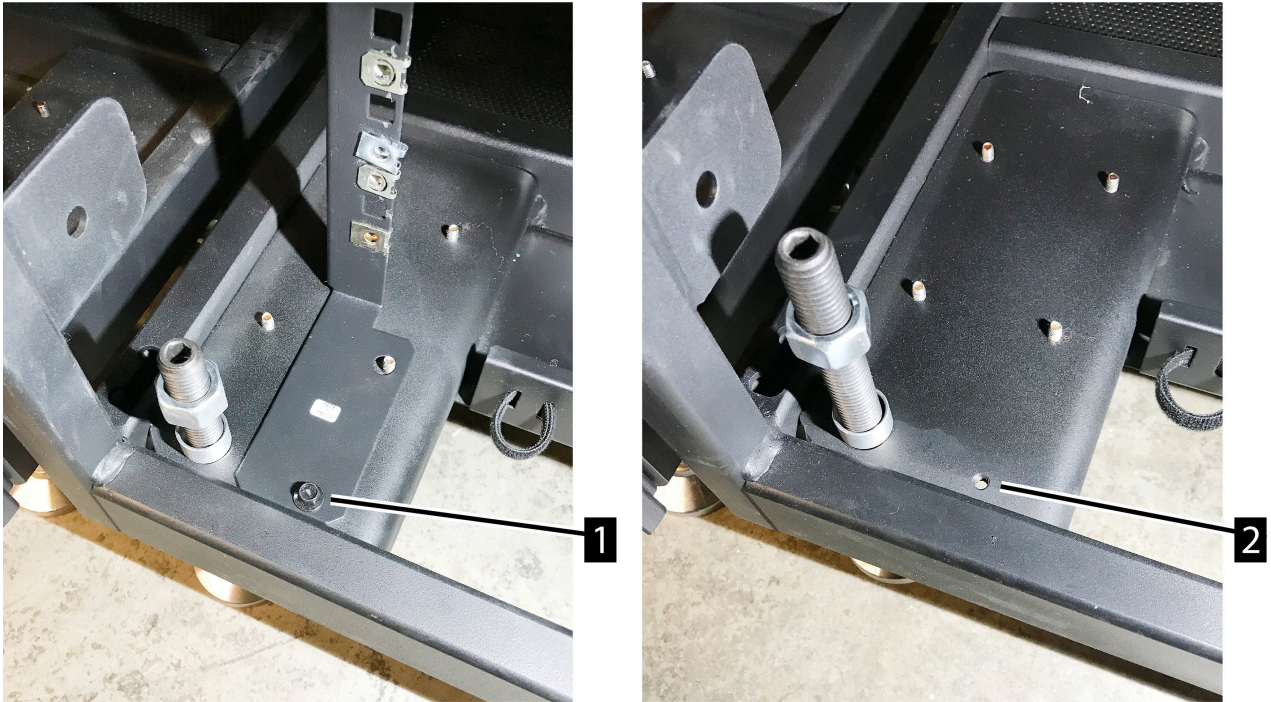

Figure 14. Location of grounding/bonding points
threaded holes (M6) at the bottom, back corners of the library frame. See **1** and **2** in Figure 14 on page 71.
1. If there is a mounting bracket installed in the frame (See **1** in Figure 14 on page 71). Remove the M6 screw and connect the grounding (bonding) wire.
2. If there is not a mounting bracket installed (See **2** in Figure 14 on page 71). Use an M6 screw to connect the bonding wire to the threaded M6 hole.